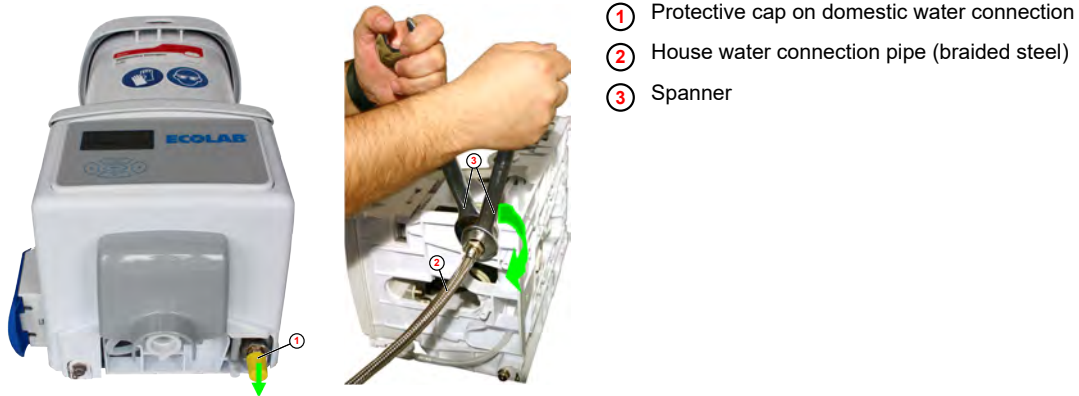

Fig. 4: Connection to domestic water supply
1. Remove the yellow protective cap (Fig. 4 , ①) from the connection.
2. Screw the building water pipe ② (braided steel pipe, not included in the scope of delivery) to the water connection of the EcoPlus PDRX until hand-tight.
3. Use two spanners ③ to tighten the braided steel pipe.